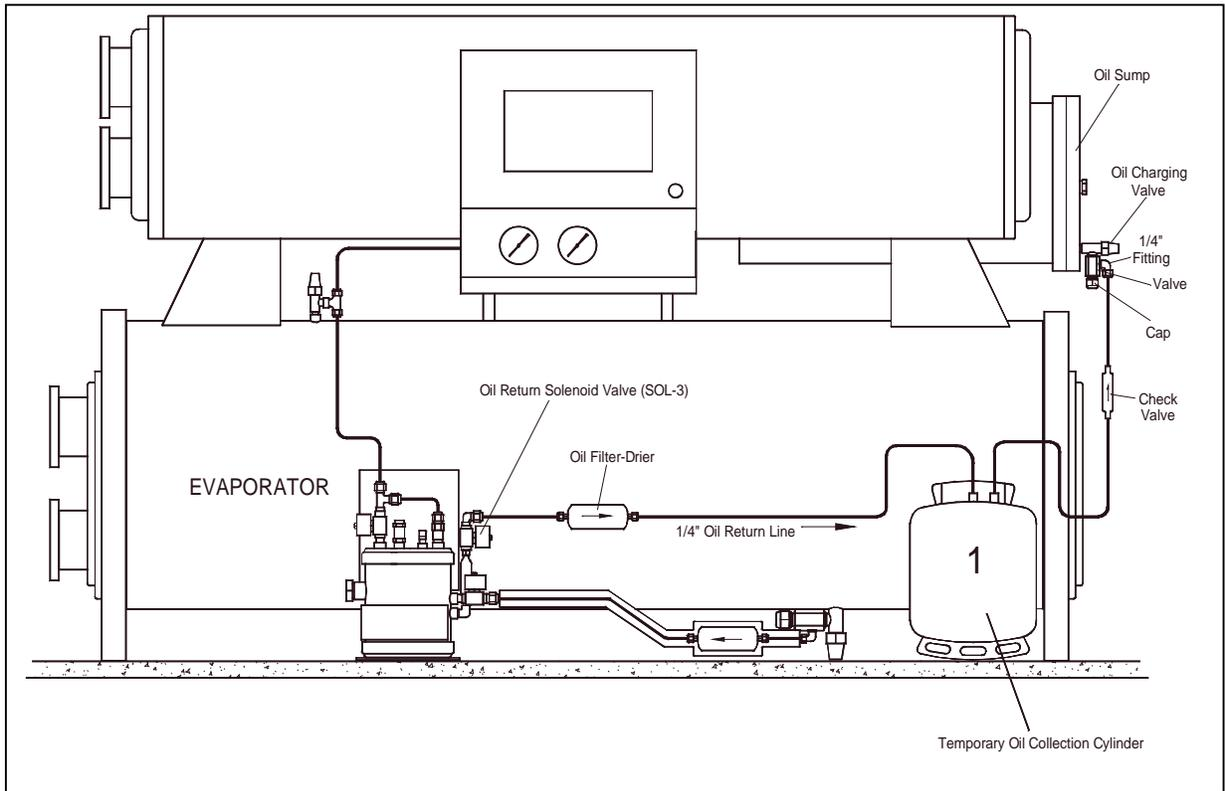

Figure 2 – CORRECT Optional Oil Collection Cylinder Hook-up
WARNING: The rated capacity of a refrigerant recovery cylinder is for refrigerant which is heavier than oil. Therefore a refrigerant recovery cylinder **will not** hold the same weight of Oil as the rated refrigerant capacity. **(See just below Figure 2 on page 17 approximate oil holding capacities of various size refrigerant recovery cylinders.)**
1. Plumb excess oil containment vessel in the Oil-Return line as illustrated in **Figure 2 on page 17**. Remember to Install the **check valve** and **Oil Filter-Drier** (provided in the OAM Purger Installation Kit) in the oil return line. Install the Check Valve between the containment vessel, and the oil sump as shown in **figure 2, on page 17**. (See warning on next page)
CAUTION: Option (2) is intended only as a convenient method of dealing with excess oil. You **MUST** still occasionally monitor the oil sump for excessive oil accumulation since there may be more excess oil than anticipated. Refer to approximate oil holding capacities of the refrigerant recovery cylinders under Figure 2 on page 17.
3. Relocate oil return line check valve as indicated in Figure 2.